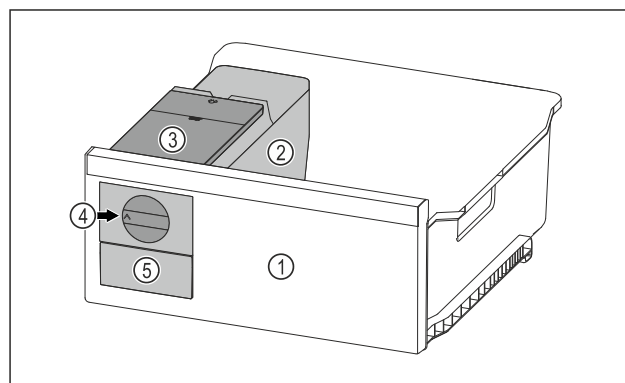

Fig. 41 Example illustration
- Turn the rotary knob Fig. 41 (4) clockwise as far as it will go.
- ▷ Ice cubes fall from the ice cube tray into the ice cube drawer Fig. 41 (5).